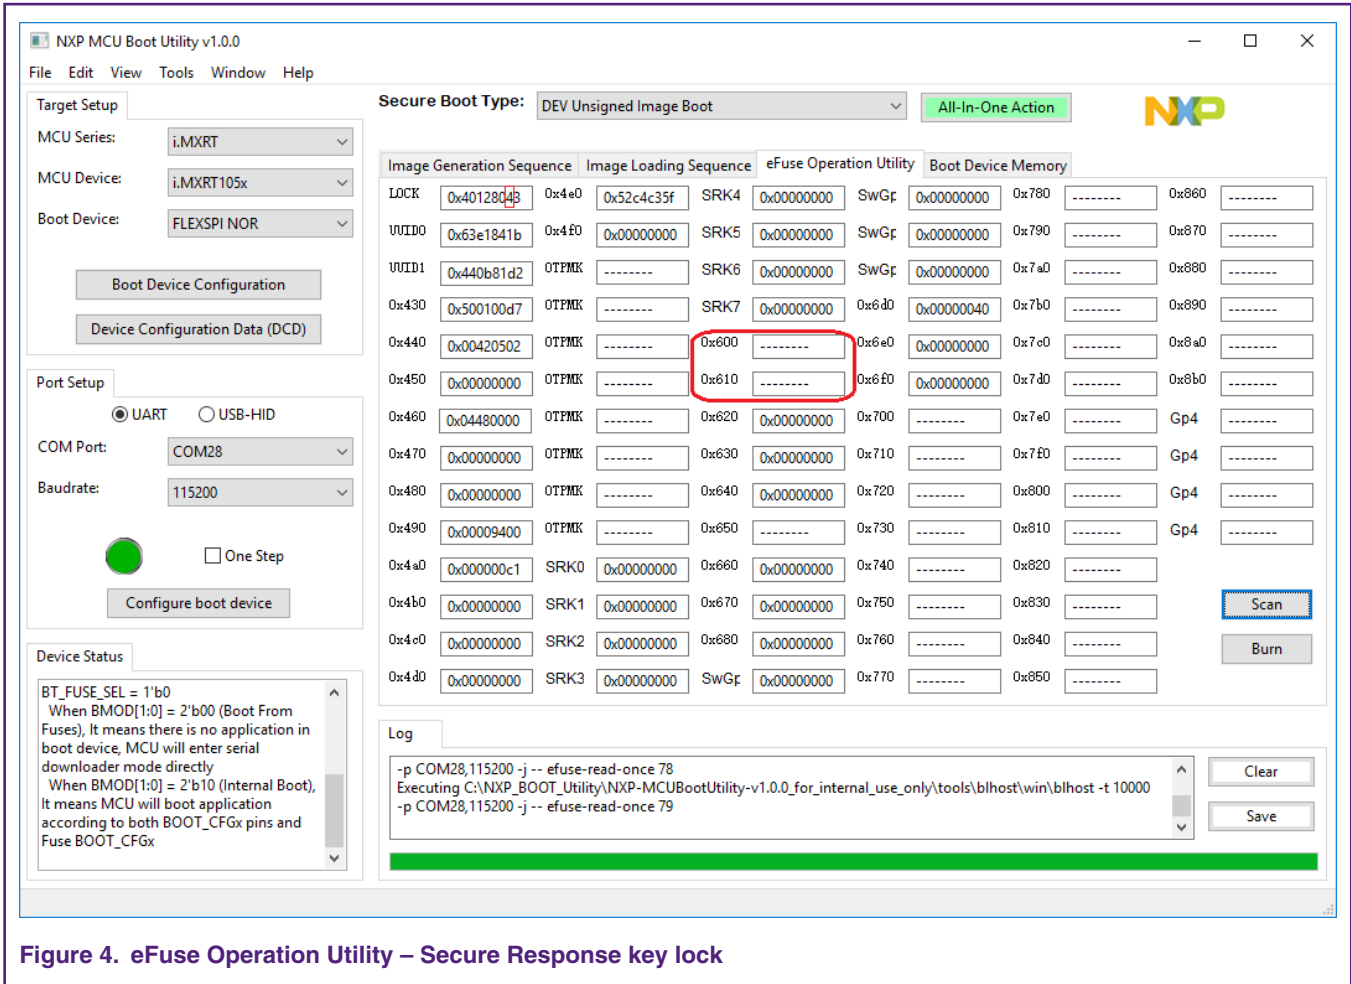

Figure 4. eFuse Operation Utility – Secure Response key lock
- Finally, the user must program 0x1 in the eFuse SJC_RESP_LOCK to disable read/write access of the secret response key. After this operation, the secret response field “SJC_RESP” becomes “invisible” in the fuse map. See Figure 3. on page 7 and Figure 4. on page 8 .
To have the Secure JTAG enabled, follow the steps mentioned above in Programming Secure JTAG eFuses using the NXP tool on page 6 and refer to Table 2. eFuses associated with the Secure JTAG feature on page 3, Figure 3. on page 7 and Figure 4. on page 8 for more details about the appropriate eFuse bits.